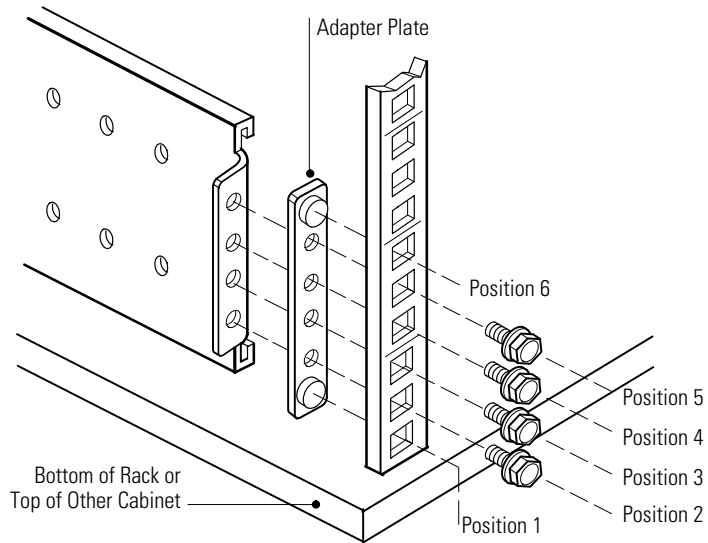

Figure 5. Securing the Rear Rail (Right Rail Assembly Shown)
5. Secure the rail to the rear of the rack with four M5 machine screws and an adapter plate (see Figure 5).